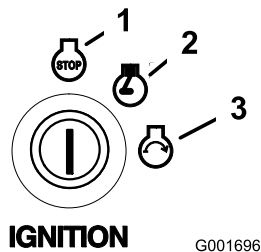

Figure 15
6. Turn the ignition key to Start. When the engines starts, release the key (Figure 15).
4. Turn the ignition key to the off position and remove the key (Figure 15).